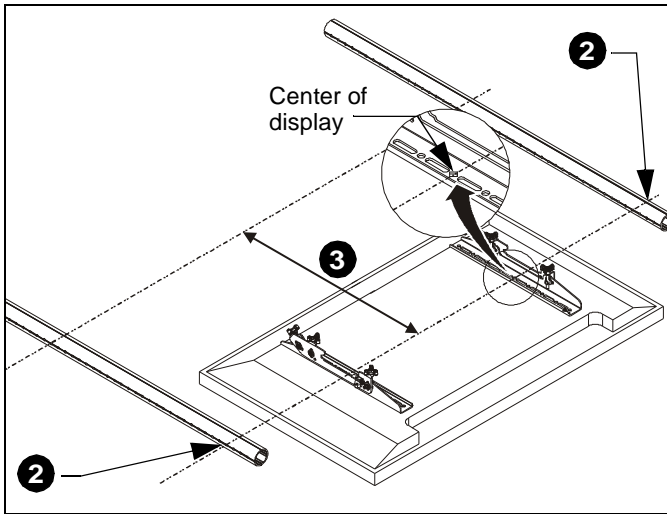

Figure 5
1. Lay columns (GG or JJ) on floor and carefully place display next to columns. (See Figure 4) and (See Figure 5)
2. Mark center of display (diamond on interface brackets) onto both columns. (See Figure 5)
3. Measure one screen height up on the columns from the first mark. (See Figure 4) and (See Figure 5)